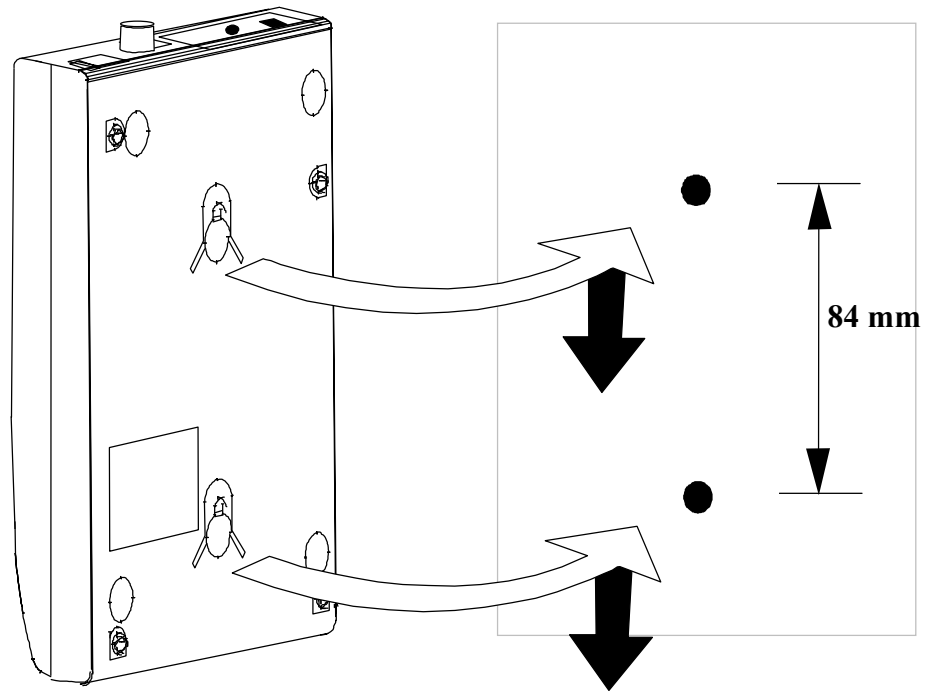

Figure 4-17 : Wall Mounting
7. If wall mounting is desired, locate a position on the wall for the FSU. Mark the screws' locations using the enclosed mounting template. Mount the main unit on the wall using the supplied two screws. Refer to Figure 4-17.